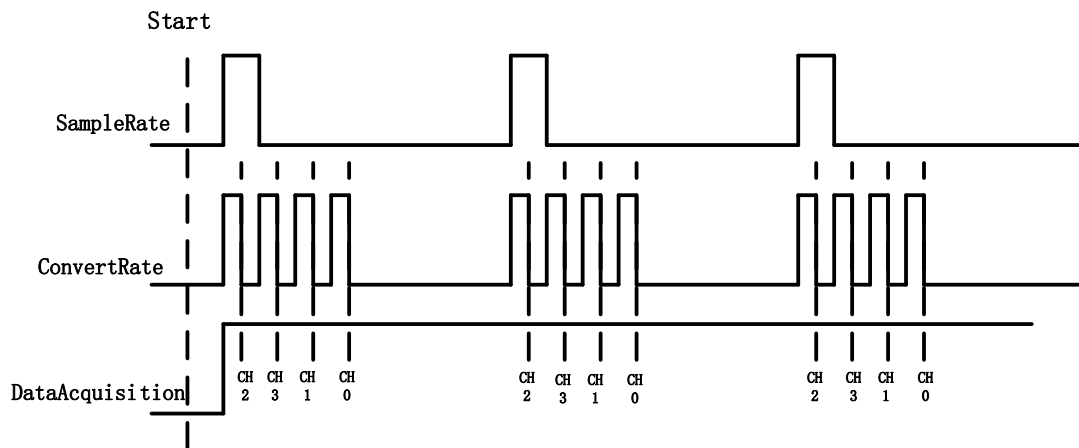

Figure 6 Sample Rate and Internal AD Conversion
*Channel Count*: how many channels you want to collect data. You can set up the channels in different orders, for instance 2,3,1,0. The acquired data will be arranged in the way you specify as shown in Figure 6. In this particular case, *Channel Count* is 4.